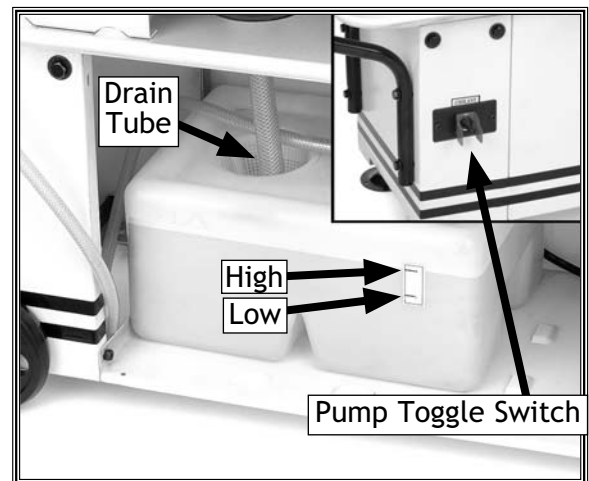

Figure 14. Correctly filled tank ready to be pumped.
3. Make sure the drain tube points toward the reservoir intake screen, and that all tube connections are tight and will not leak (see **Figure 14**).
4. Make sure the waterproof rubber switch boot is installed on the pump ON/OFF toggle switch (**Figure 14**), and that the toggle switch is in the down position.
NOTICE: NEVER operate the pump with the reservoir below the low mark (**Figure 14**), or the pump can be destroyed!